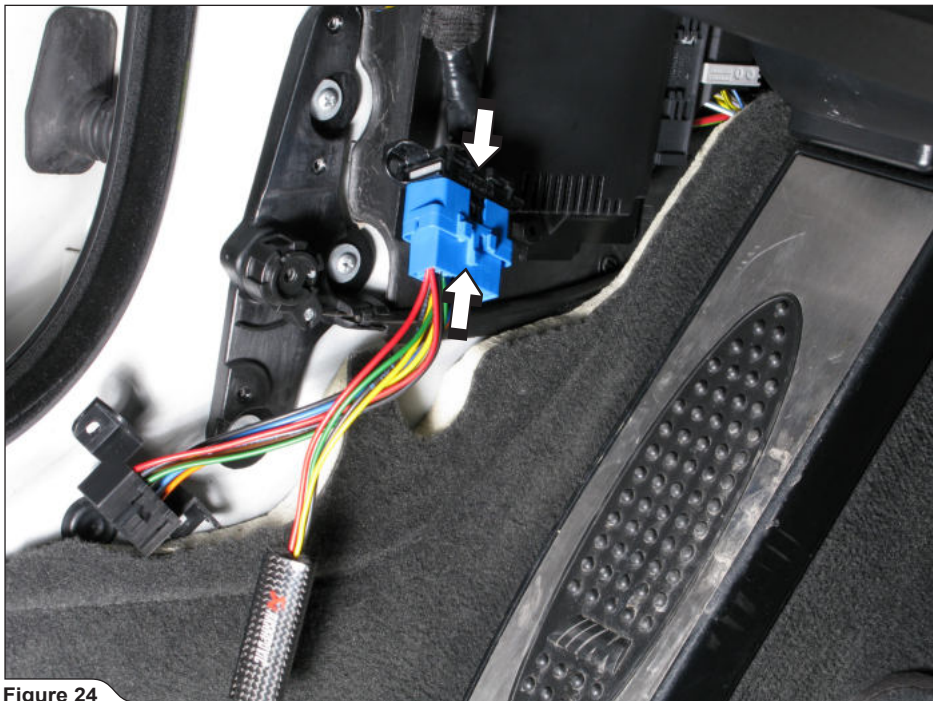

Figure 24
14. For optional Akrapovič delete-R: plug the Akrapovič delete-R's OBD blue connector with stock black OBD connector (Figure 24).